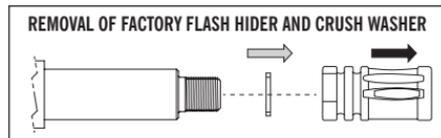

FIGURE 2
1. Referring to host weapon user manual, remove existing flash hider/muzzle brake, spacers, shims and/or washers from host weapon (Figure 2). DO NOT reuse the shims, spacers or washers removed from host weapon.